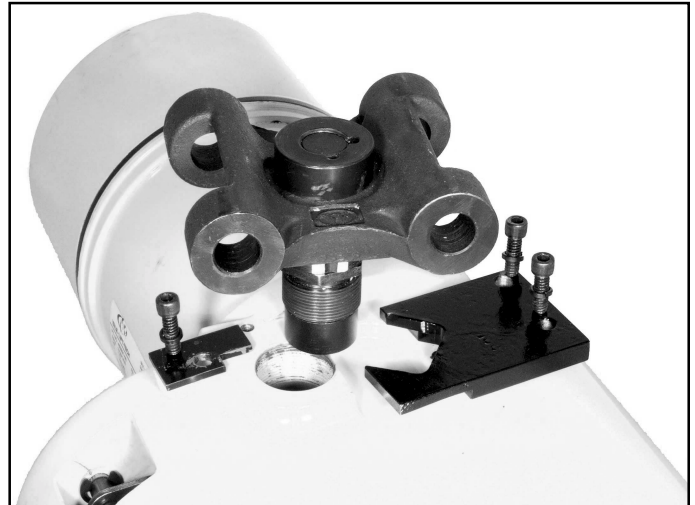

Figure 7-20. Removing Suspension Lug (1/4 through 1 Ton Models)
(1) On 1/4 through 1 ton models, remove two screws securing anti-rotation bracket and remove bracket. Remove screw securing suspension bushing keeper, and remove keeper. Remove suspension lug using an extra thin 1-1/4" open end wrench to unscrew suspension bushing from frame. (See fig. 7-20).
(2) On 2 ton models, remove three hex socket head screws securing the two lock plates to block at top of frame and pull out locks. Remove suspension lug, using an extra thin 1-1/4" open end wrench to unscrew suspension bushing from block. Instructions for removing block from frame are given in paragraph b. (2).